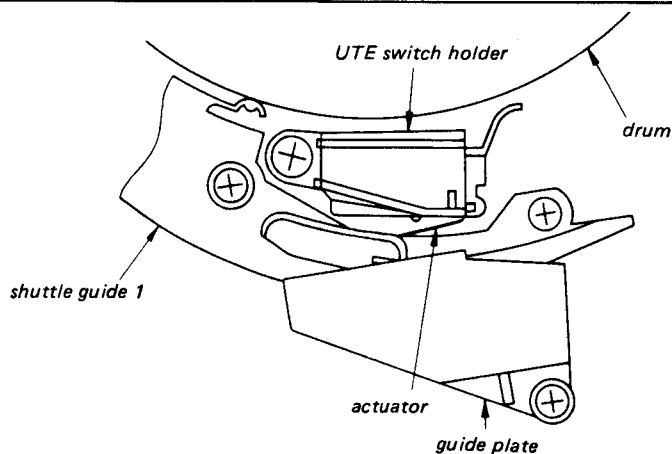

Fig. 3-20. UTE Switch
- 2) Check that the actuator for the unthreading end switch is not tripped as shown in Fig. 3-20. (Slowly rotate the internal gear by hand and verify by the click sound.)